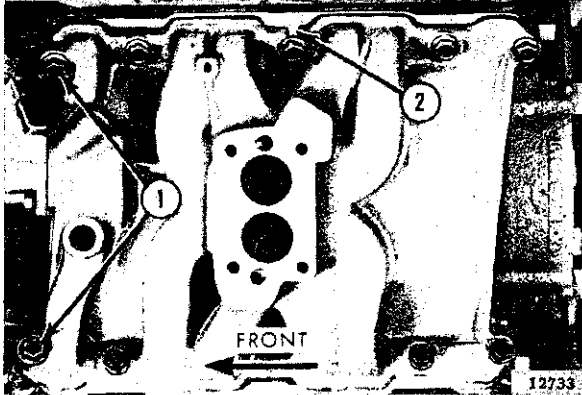

FIG. D1-46—INTAKE MANIFOLD INSTALLATION
c. Install manifold attaching bolt in open bolt hole at right side of intake manifold. See Fig. D1-46. Open bolt hole is held to close tolerances, so that the bolt in this location serves to locate the manifold front and rear.